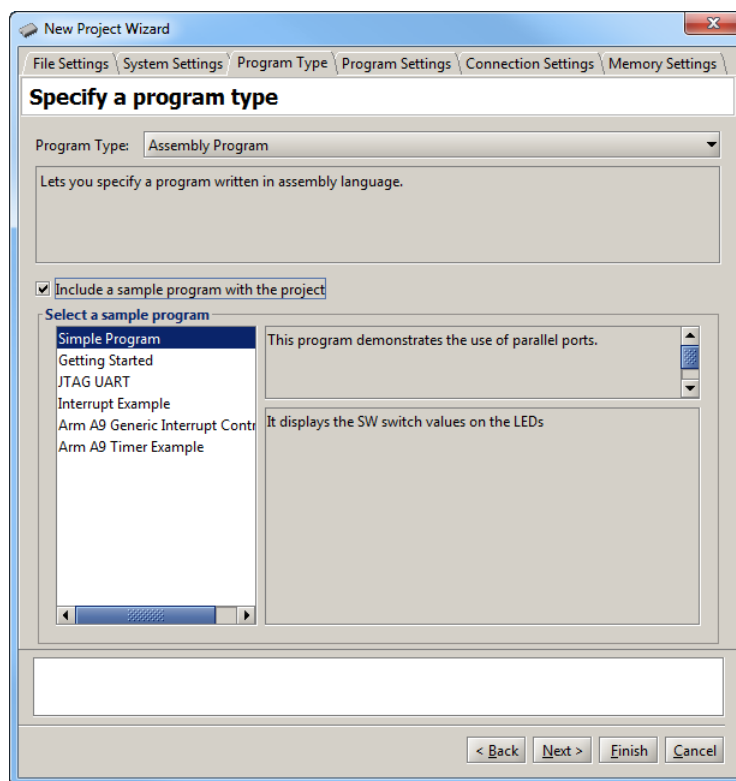

Figure 7. Selecting a program type and sample program.
3. Click **Next** to advance to the screen in Figure 7, which is used to specify the program source files that are associated with the project. The **Program Type** drop-down list can be used to select one of the following program types:
As illustrated in Figure 7, several sample assembly-language programs are available for this prebuilt computer. For our tutorial select the program named *Simple Program*. This is a very simple program which continuously reads the state of the slider switches on the DE1-Soc board and displays their state on the red LEDs. The source code for the program is: